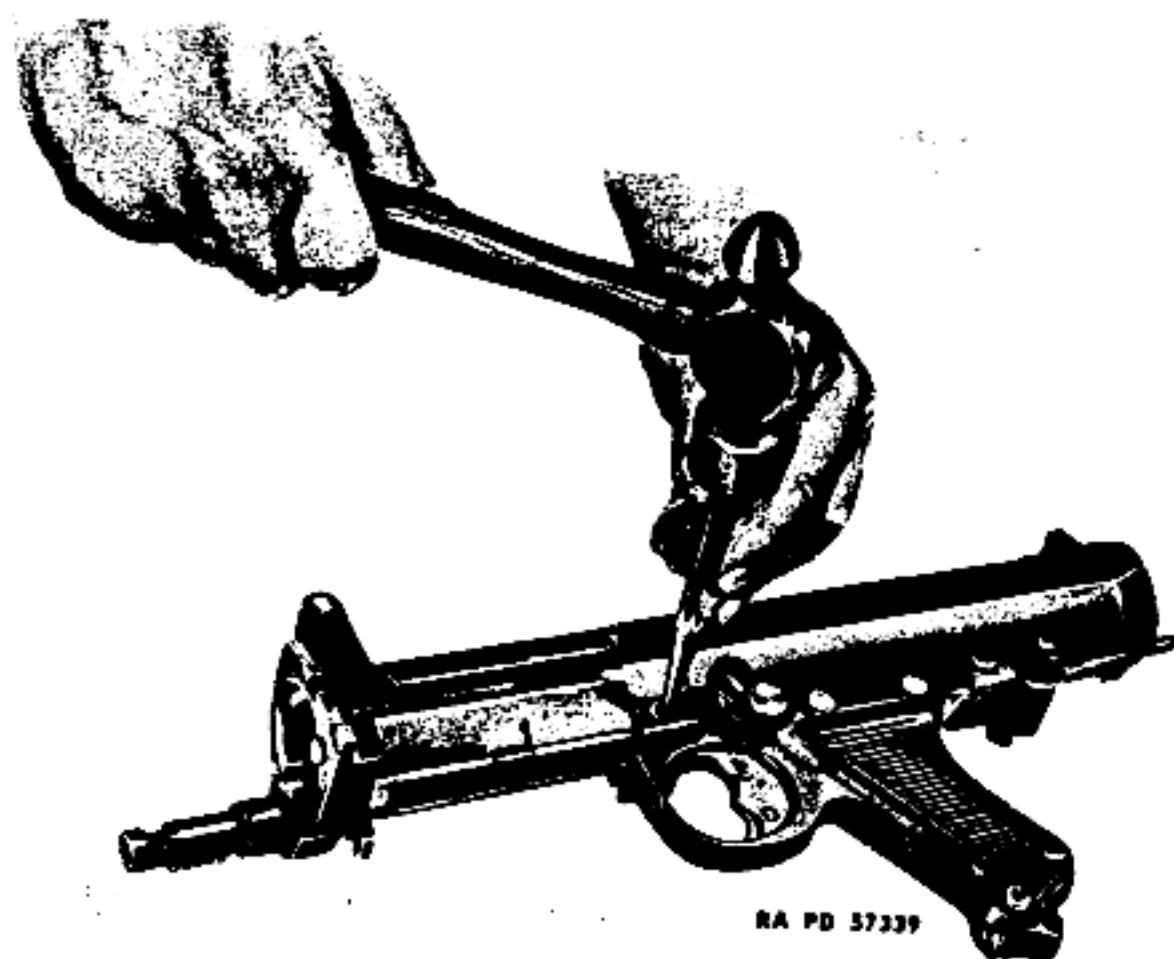

Figure 54 — Removal of Trigger Housing Group
h. Trigger Housing. With a drift or any suitable tool, drive out the split pins (fig. 54) and then, the split pin retainers. Remove the trigger housing from the receiver. The trigger housing should not be removed unless absolutely necessary.